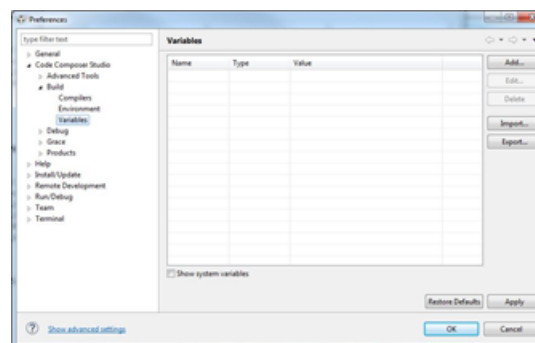

Figure 33. FreeRTOS Support in CCS (1 of 2)
- Choose Window → Preferences → Code Composer Studio → Build → Variables → Add (see Figure 33).